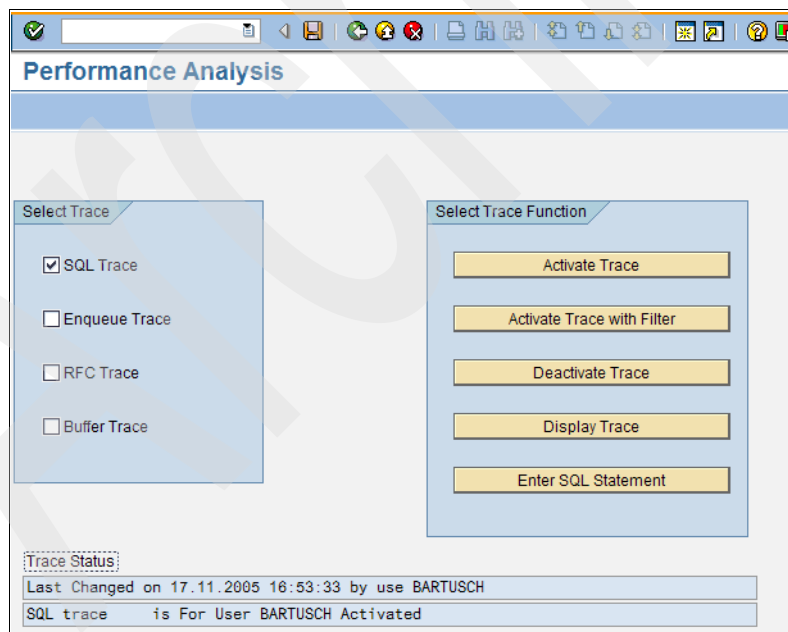

Figure 26-18 Session 2: Activate Trace
2. Select **Activate Trace** to switch the trace on as Figure 26-18 shows.